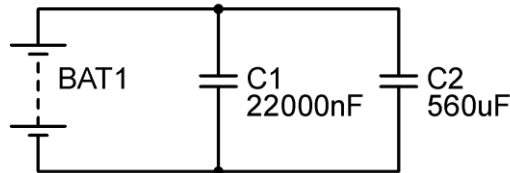

Figure 7 – Circuit 4
a) Find the total capacitance of the circuit shown in Figure 7 below. Show all your working.